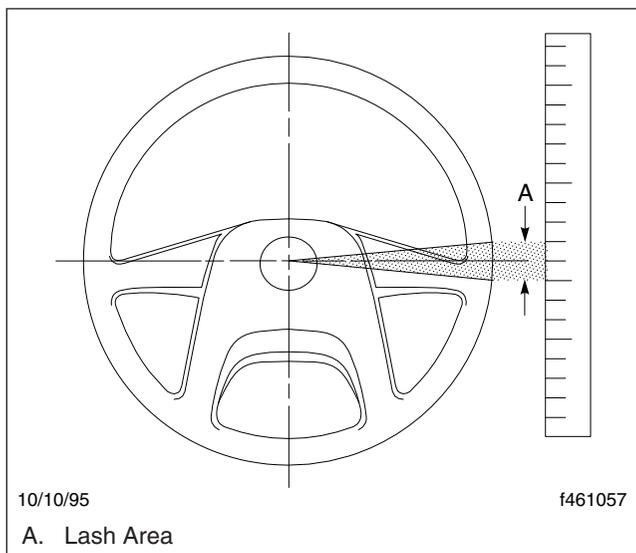

Fig. 10.15, Measuring Lash at the Steering Wheel
3. Check the steering wheel for excessive play. See Fig. 10.15.